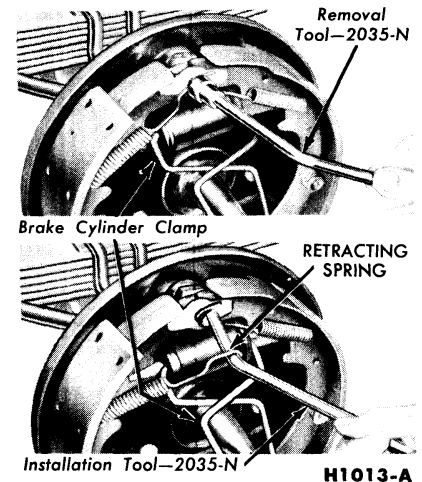

FIG. 5 Retracting Spring Replacement — Typical
4. Install the four retracting springs with the tool shown in Fig. 5.